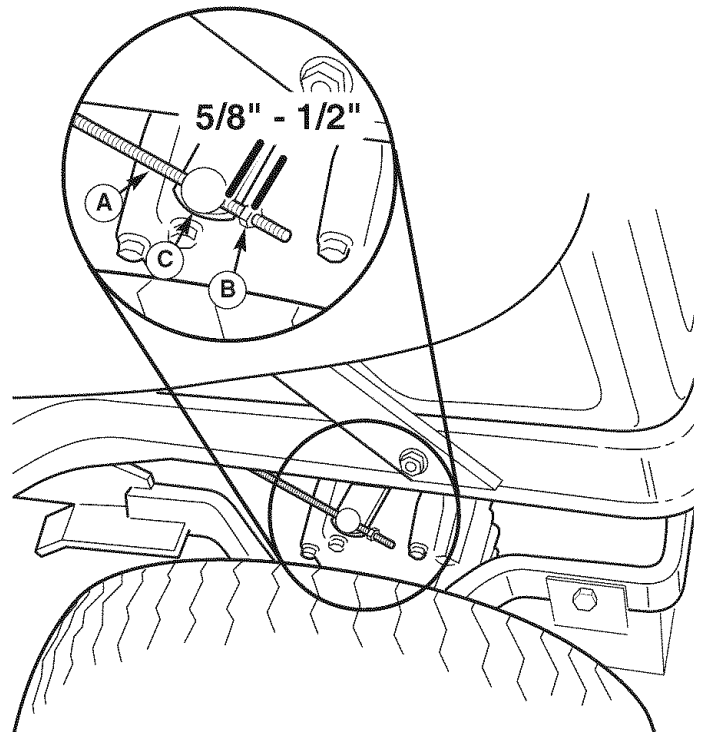

Figure 32. Brake Adjustment
3. Push the brake lever (C, Figure 32) forward and pull the brake rod (A) back. There should be an approximately 5/8" - 1/2" gap between the adjustment nut (B) and brake lever. If not, adjust the nut (B) until 1/8" is achieved.